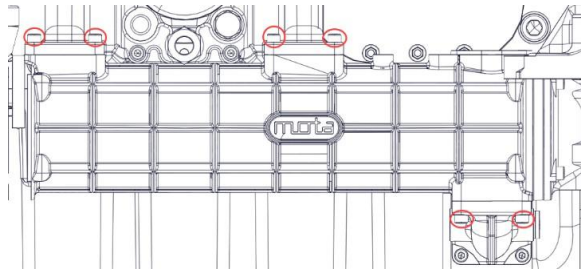

Figure 154-5.
2. Install the new oil cooler and hand tighten all bolts (Figure 154-5).